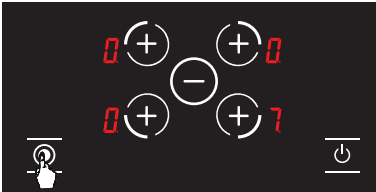

Figure 30
2. The power will be displayed without a dot • when one hotplate is activated by touching the special function selection key. (See Fig. 30.)